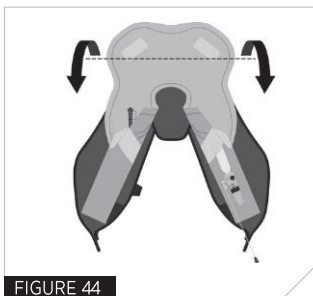

FIGURE 44
9. Fold the top of the bladder down over the pillow along fold line 9 (Fig 44).